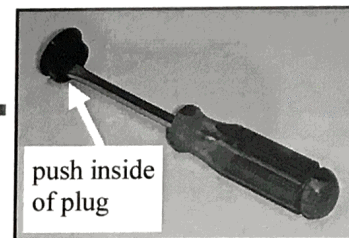

FIG. 1.1
- 1.1 Remove the rubber plugs from the windshield by inserting a screwdriver into the plugs from inside the cab and pushing them out, see fig. 1.1. **WARNING: Avoid damage! Do not pry against the windshield to remove the plugs from outside the cab.**